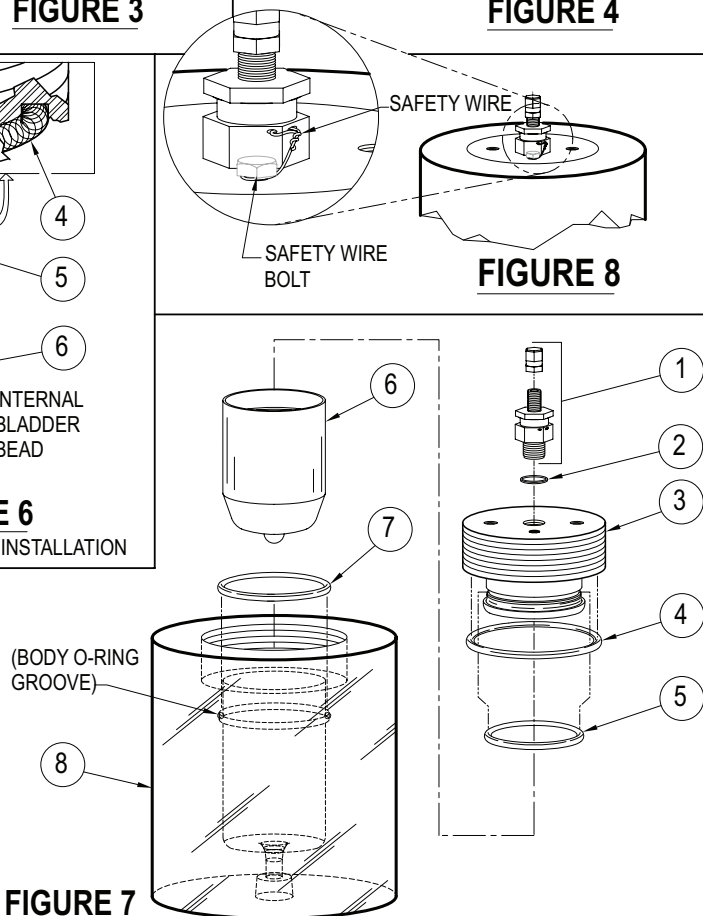

FIGURE 7
7. Remove cap tightening bolts. Make sure the charging valve sealing O-ring is not damaged and is properly installed. Install charging valve into cap (see FIGURE 7). Use a 3/4" (19 mm) deep socket and torque wrench to torque the charging valve to 30-35 Ft Lbs (41-47 Nm).
3. If bubbles occur at the base of the charging valve, remove all pressure from dampener and check that the charging valve is properly torqued to 30-35 Ft Lbs (41-47 Nm) into the cap. If leakage continues, remove all dampener pressure and inspect the charging valve O-ring seal (see FIGURE 7). Replace if damaged.